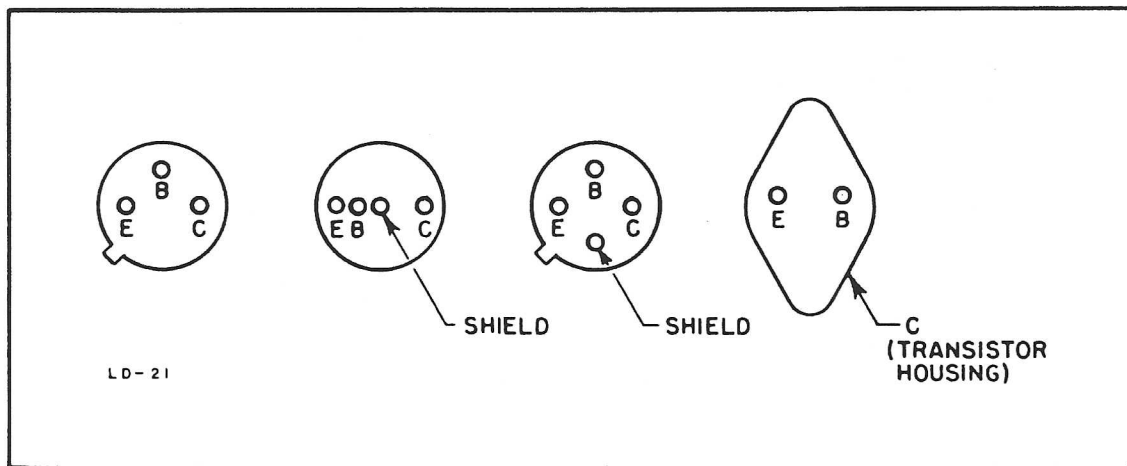

Figure 7. Transistor Lead Identification
For the purpose of quick reference, the bottom views of the most common types of transistors are shown in Figure 7.
1. Connect the test lead to the 890 in this manner: Place the plug with the yellow lead into the jack marked "E", the plug with the green lead into the jack marked "B" and the plug with the blue lead into the jack marked "C". Then connect the other end of the test lead to the transistor to be tested. The yellow lead is connected to the emitter, the green lead to the base and the blue lead to the collector (refer to basing diagram, Figure 7).
Refer to the standard basing diagrams, Figure 7. Generally, transistor terminals are arranged in a regular sequence of emitter, base and collector from left to right, viewing the transistor from above. Transistors having a triangular pin arrangement usually have the collector pin identified by a red dot or other symbol.